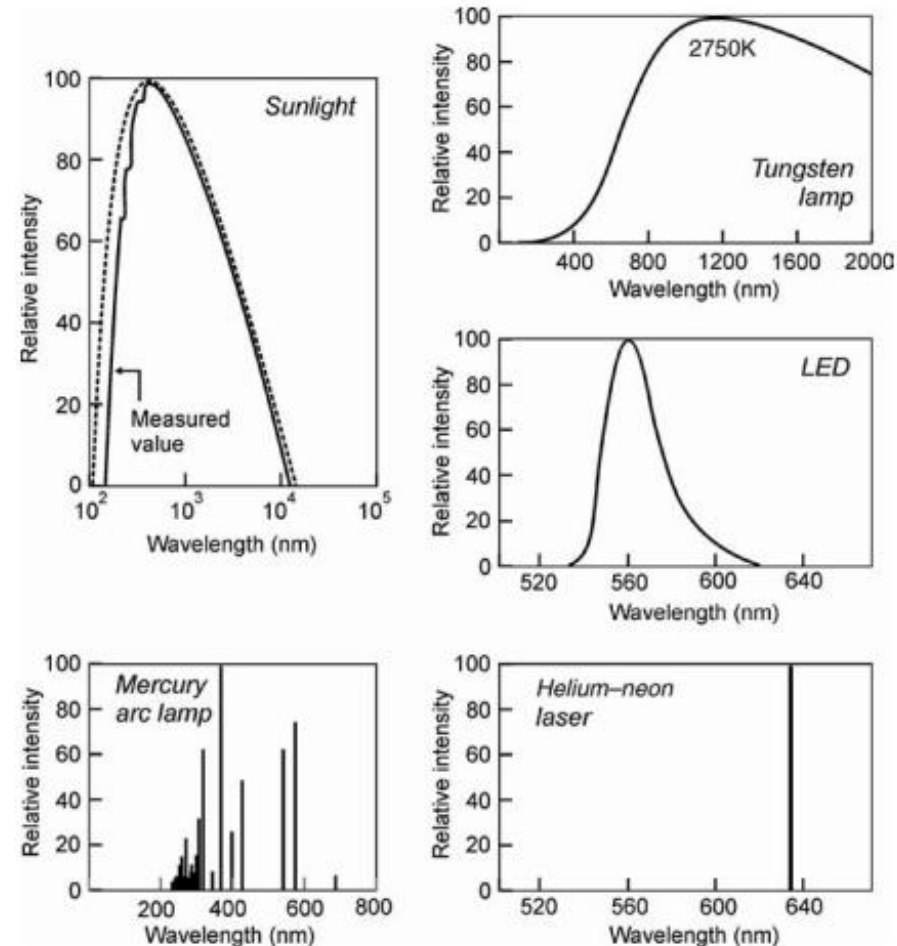

FIGURE 5.5 Spectral power distributions of common physical light sources. Redrawn from [Pra07].
- Figure 5.5 shows examples of SPDs of physical light sources commonly found in imaging systems: sunlight, tungsten lamp, light-emitting diode (LED), mercury arc lamp, and helium–neon laser.